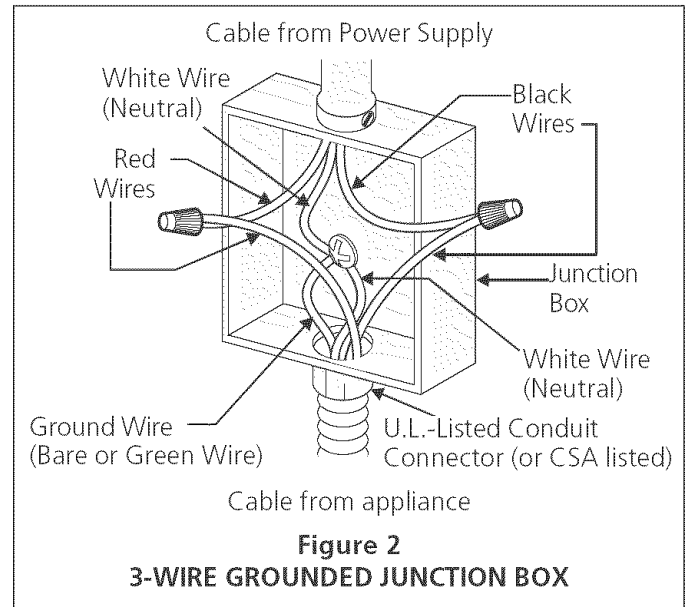

Figure 2
Where local codes permit connecting the appliance-grounding conductor to the neutral (white) wire (see figure 2):
2. In the circuit breaker, fuse box or junction box: connect appliance and power supply cable wires as shown in Figure 2.